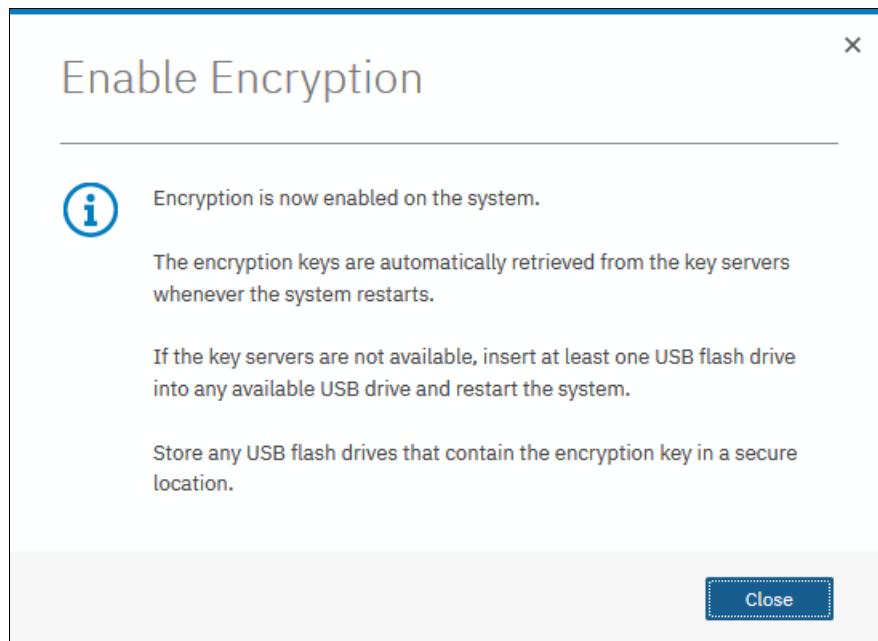

Figure 13-63 Confirmation of successful configuration of two encryption key providers
2. Click **Configure**. You are presented with a wizard that is similar to the one that is described in 13.4.2, “Enabling encryption using USB flash drives” on page 745. You *cannot* disable key server provider during this process. After successful completion of the process, you are presented with a message confirming that both encryption key providers are enabled, as shown in Figure 13-63.